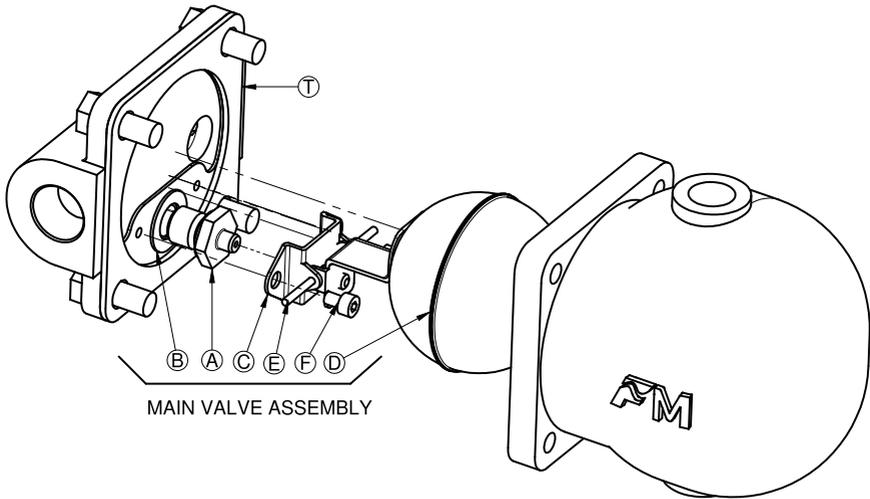

Figure 4 : Exploded View of Forbes Marshall Liquid Drain Trap [FMLDT31-O]
1. Unscrew cover bolts (11) and lift off the cover (2).
2. Unscrew the assembly set screws (9), and dismantle the pivot frame (6).
3. Remove the valve seat (4) along with the valve seat gasket (5).
4. Replace the main valve assembly (A, B, C, D, E, and F) as shown in figure 4 with a new one.
5. Refit the pivot frame (6) and tighten the assembly set screws (5).
6. Refit the cover (2) by using the cover bolts (11).